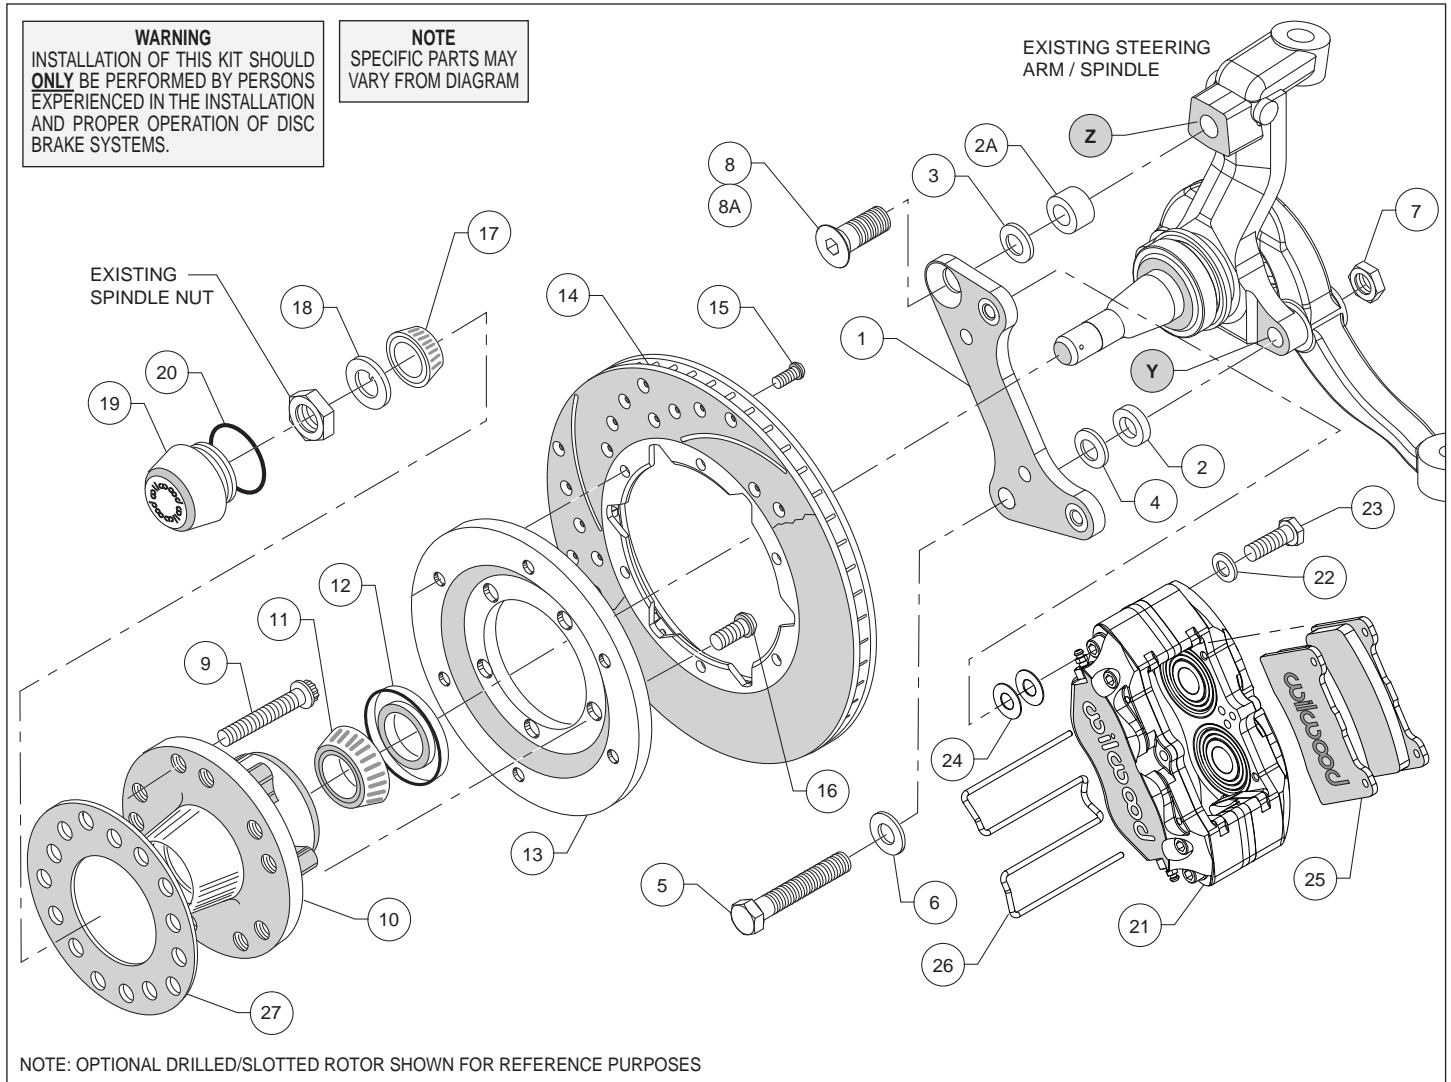
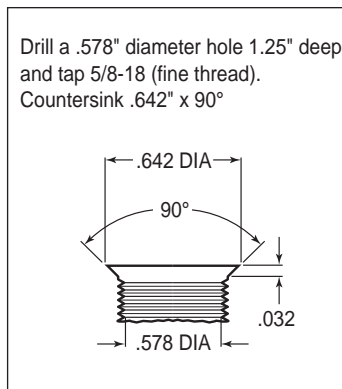

Figure 1. Typical Installation Configuration
Figure 3. Drill and Tap Detail
**Assembly Instructions** (numbers in parenthesis refer to the parts list and Figure 1 on the preceding page): **CAUTION:** All mounting bolts must fully engage clinch nuts. Be sure to check that all bolts are either flush or protruding through flanged side of clinch nut after shimming, Figure 4.
•**NOTE:** 1964-66 spindles may require the following modifications (reference Figure 1 and Figure 3): Top anchor pin hole (Z) must be drilled and tapped to the dimensions as outlined in Figure 3. Bottom rear steering arm bolt hole (Y) in the spindle and steering arm must be enlarged to .50" by drilling.
- Pack the large inner bearing cone (11) with high temperature disc brake bearing grease (available from your local auto parts store) and install into the backside of the hub (10), Photo 2.
- Install the grease seal (12) by pressing into the backside of the hub (10), flush with the end of the hub, Photo 2.
- Orient the rotor (14) and the rotor adapter (13) as shown in Figure 1 and Photo 3. Attach the rotor to the adapter using bolts (15). Using an alternating sequence, apply red *Loctite*® 271 to the threads, and torque to 25 ft-lb.
- Mount the adapter/rotor assembly (13/14) to the hub (10) using bolts (16), as shown in Figure 1 and Photo 4. Using an alternating sequence, apply red *Loctite*® 271 to the threads, and torque to 55 ft-lb.
- Attach caliper mounting bracket (1) to spindle face using lower bolt (5), washer (6), and a .090" thick spacer (2) positioned between the bracket and the spindle face, as shown in Figure 1 and Photo 5. Secure bolt on the backside of the steering arm with nut (7). Finger tighten. Install upper bolt (8) (for drum spindle) or bolt (8A) with spacer (2A) between bracket and spindle (for disc brake spindle), Photo 6. Ensure that the flanged heads of the clinch nuts in the bracket are facing outboard, Photo 6. Temporarily tighten the mounting bolts and install the new hub/rotor assembly (10/14). Check that the bracket is aligned parallel to the rotor, Photo 7. If not, adjust by adding shim washers (3 and/or 4) between spacers (2 and/or 2A) and the bracket, Figure 1. Once the bracket alignment is correct, remove the bolts one at a time, apply red *Loctite*® 271 to bolt threads, and torque upper bolt (8 or 8A) to 120 ft-lb. and lower bolt (5) to 77 ft-lb.
- Pack the small outer bearing cone (17) with high temperature disc brake bearing grease and install into hub (10). Slide the hub/rotor assembly onto the spindle. Secure using spindle washer (18) and OEM spindle nut, Photo 8. Adjust bearings per OEM specifications. Install saved OEM nut lock (if any) and a new cotter pin (not included).
- Screw dust cap (19) into hub (10). Friction created by the o-ring on the dust cap keeps it from unscrewing. **NOTE:** The O.D. of the existing OEM spindle washer may be larger than the I.D. of the dust cap not allowing it to seat against the hub face. Therefore, use the spindle washer (18) supplied with the kit instead of the OEM washer.
- NOTE:** Please reference the caution statement at the beginning of the assembly instructions. Mount the caliper (21) onto the caliper mounting bracket (1) using bolts (23) and washers (22), as shown in Figure 1. Initially place two .032" thick shims (24) on each bolt between the caliper and the bracket, Photo 9. Temporarily tighten the mounting bolts and view the rotor (14) through the top opening of the caliper. The rotor should be centered in the caliper, Photo 10. If not, adjust by adding